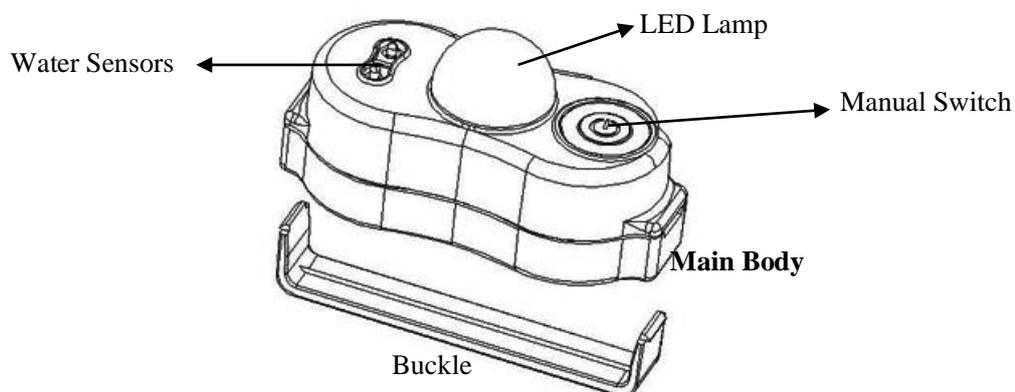

Figure 2-1 Product Structure
2.2.1 LNK-LJ-03A1 & LNK-LJ-03A1W lifejacket lights consist of Main body with battery\LED lamp \Water sensors\Manual switch and installation buckle. The structure is shown as below Figure2-1: